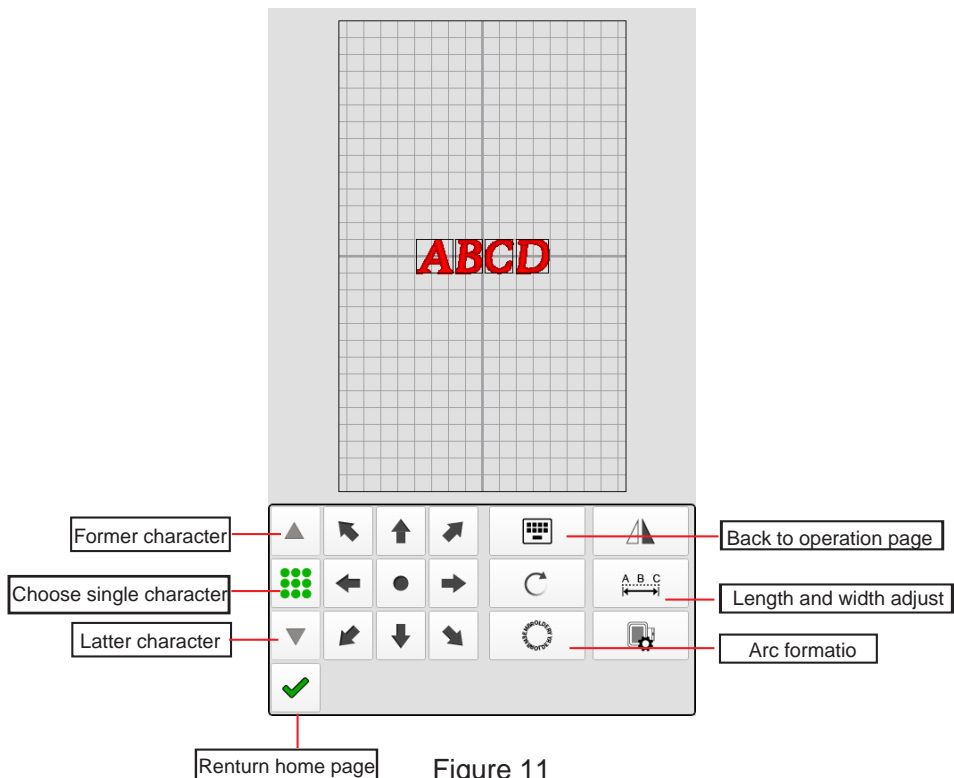

Figure 11
- (3) Enter the interface in FIG. 11. Adjust the letter arrangement, edit the arc arrangement, combination, rotation, mirror image, etc. Select the matching embroidery frame, and press the return button to confirm the embroidery.